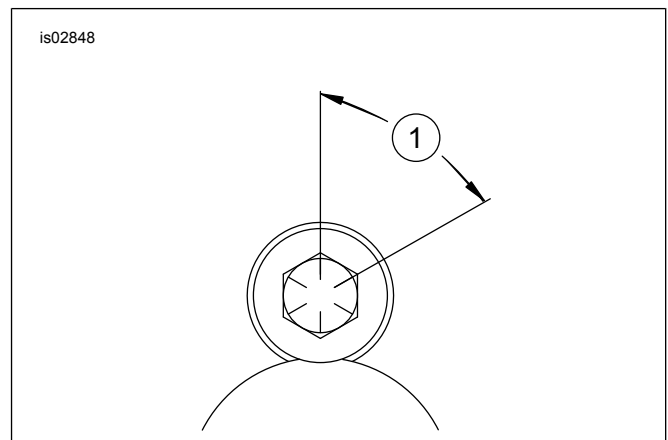

Figure 2. Additional Torque Sequence
5. See Figure 2. After all screws have been tightened to 23 ft-lbs (31.2 Nm), mark a straight line, with a grease pencil, on all sprocket screw heads continuing the line over onto the sprocket.